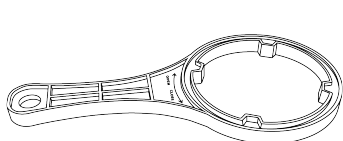

Fig 4
4. UNSCREW the housing from the lid, using the tools provided in the installation kit (Fig 4)